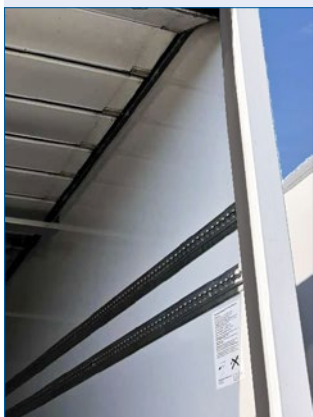

Fig. 4.1
- Open the shutter and slide the (Fig. 4.1) down directly onto the sill, beginning in the gap between the vertical guide rail and the rail angle.
- Check whether all four seals fit correctly (Fig. 4.1). Check in particular the tightness at the seal joint on the left and right. Bond the vertical seal with the sill.